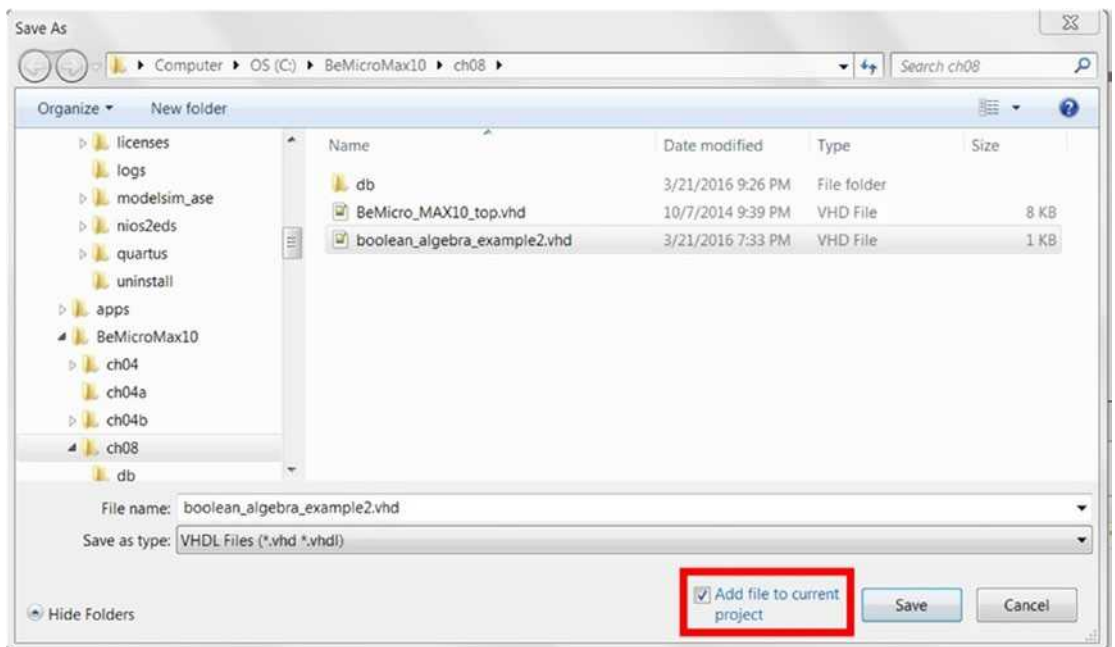

Figure 8-5. Save the VHDL file as *boolean_algebra_example2.vhd*
4. Copy the code from Listing 8-2 into the new VHDL file and save the file as `boolean_algebra_example2.vhd` with the check box Add file to current project ticked (Figure 8-5).